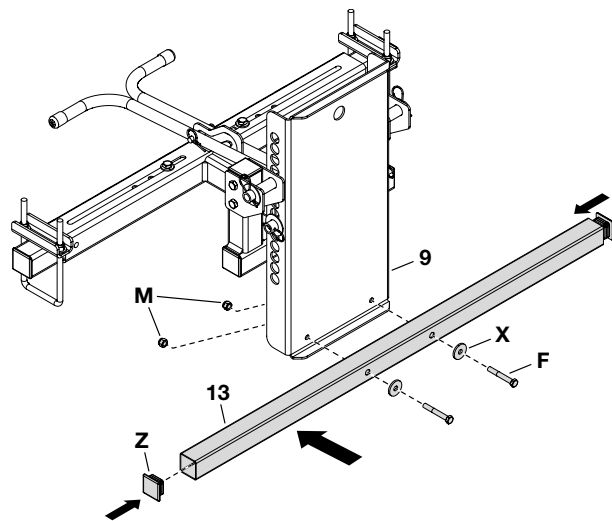

Figure 8
STEP 8: (SEE FIGURE 8)
- Attach the square tube (13) to the bulkhead (9) using two hex bolts (F), washers (X) and hex nuts (M).
- Insert the two square plugs (Z) into the square tube.